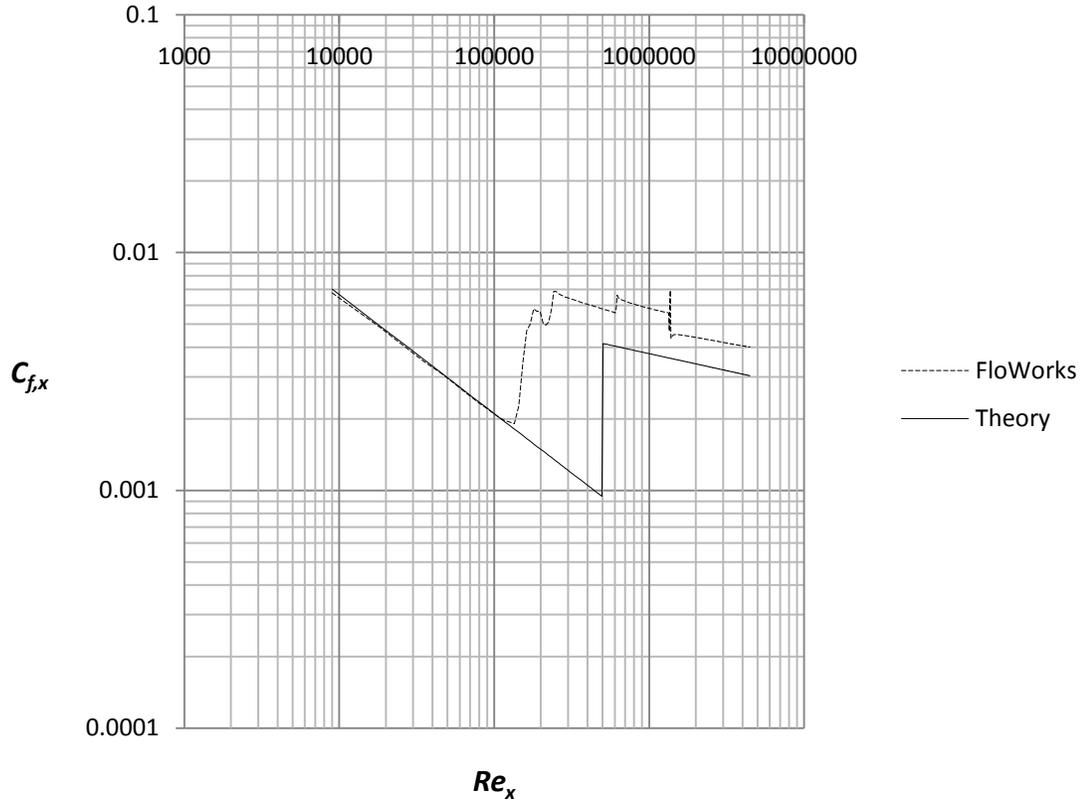

Figure 2.32 Comparison between FloWorks (dashed line) and theoretical laminar and empirical turbulent friction coefficients
34. Place the file “xy-plot figure 2.32” into the **Local Disk** (C:)/SolidWorks/COSMOSFloWorks/FloWorks/lang/english/template/XY-Plots folder to make it available in the **Template** list. Repeat step 24 and choose the sketch $x = 0 - 0.9$ m, uncheck the box for **X-Velocity** and check the box for **Shear Stress**. Rename the xy-plot to **Local Friction Coefficient for Laminar and Turbulent Boundary Layer**. An Excel file will open with figure 2.32. Figure 2.32 is showing the FloWorks is able to capture the local friction coefficient in the laminar region in the Reynolds number range 10,000 – 150,000. At $Re =$